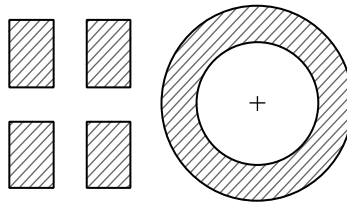
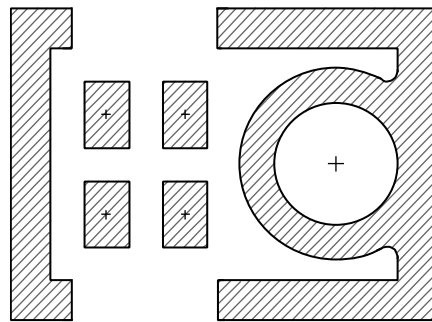

Figure 18. Example PCB Land Pattern with No Enclosing Rectangle
Figure 19. Example PCB Land Pattern with Broken Enclosing Rectangle
The standard PCB land pattern of the ADMP621 has a solid rectangle around the edge of the footprint that can make routing the microphone signals more difficult in some board designs. This rectangle is used to improve the radio frequency (RF) immunity performance of the ADMP621; however, it is not necessary to have this full rectangle connected for electrical functionality. If a design can tolerate reduced RF immunity, this rectangle can either be broken or removed completely from the PCB footprint. Figure 18 shows an example PCB land pattern with no enclosing rectangle around the edge of the part, and Figure 19 shows an example PCB land pattern with the rectangle broken on two sides so that the inner pads can be more easily routed on the PCB.